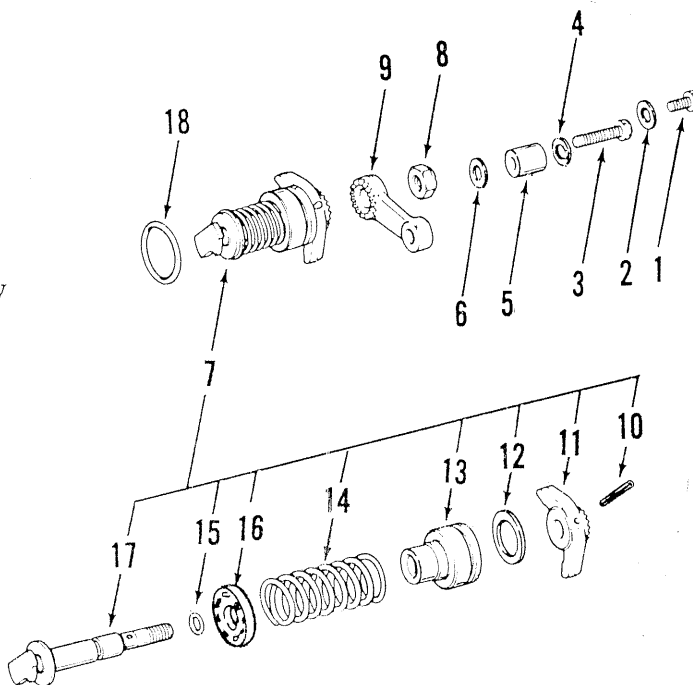

Figure 1. Mixture Control Shaft Assembly
- A. Refer to the latest applicable overhaul manual for the exploded view of the fuel injector and Figure 1 this bulletin for the exploded view of the mixture control shaft assembly.
Key to Figure 1
- (1) Loosen and remove screws (1 and 3, Figure 1) washers (2 and 4). Remove spacer (5) and washer (6). Discard washers (2 and 6).
- (2) Remove nut (8) and lever (9), discard nut (8).
- (3) Disassemble mixture control shaft assembly (7) as follows:
WARNING: THE SPRING (14, FIGURE 1) IS COMPRESSED WHILE THE MIXTURE CONTROL SHAFT IS FULLY ASSEMBLED. EXERCISE EXTREME CAUTION DURING THE REMOVAL OF THE STOP (11). THE REMOVAL OF THE STOP WILL RELEASE THE COMPRESSION ON THE SPRING.